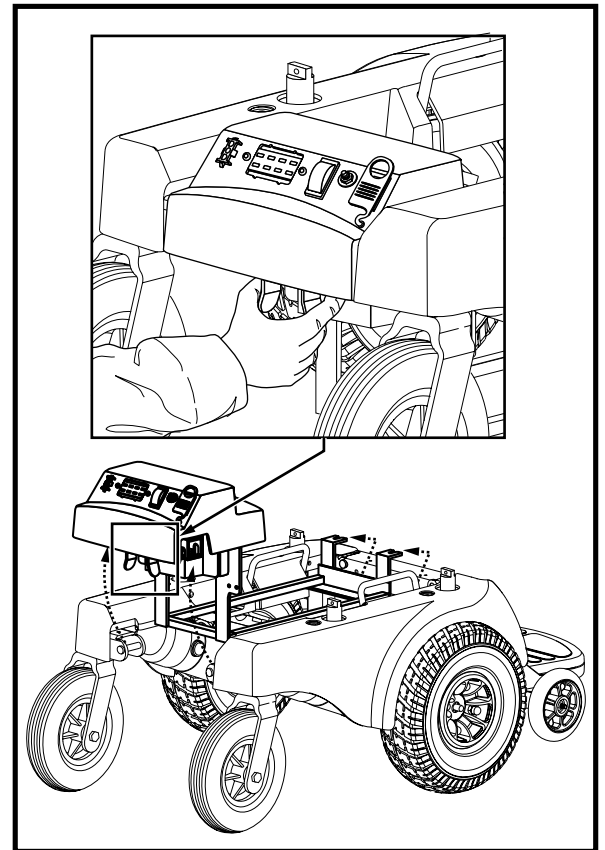

Figure 17. Removing Battery Well Frame
7. Squeeze together the latch release levers that hang vertically down from the crossbar at the rear of the battery well frame. See figure 17.